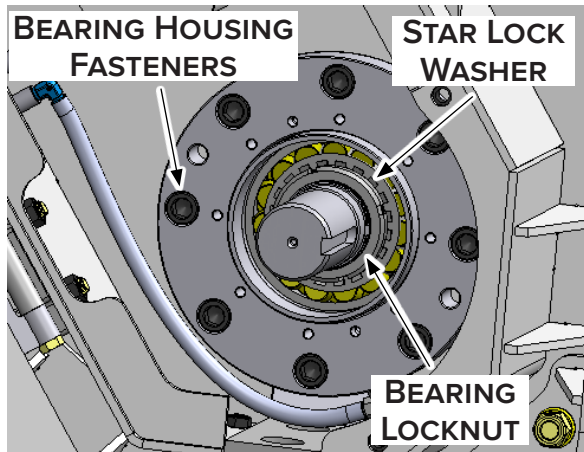

Figure 23
14. With a 14 mm Allen key, torque the bearing housing fasteners to 175 lbf·ft (236 N·m) with a medium strength threadlocker. See Figure 23.